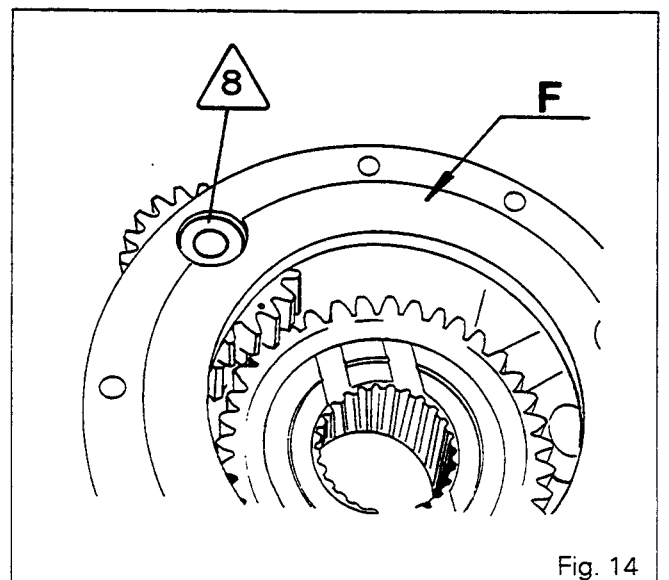

Fig. 14
39. Insert spindle /8\ into the unobstructed bore in face F and drive it home with a mallet until it is slightly recessed below the face (Fig.14).